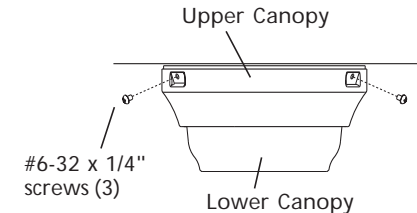

Figure 5b - Attaching Upper Canopy
4. Raise the upper canopy and align the three screw holes in the upper canopy with the three threaded holes in the ceiling plate. Install and tighten the three #6-32 x 1/4" screws as shown in Figure 5b.